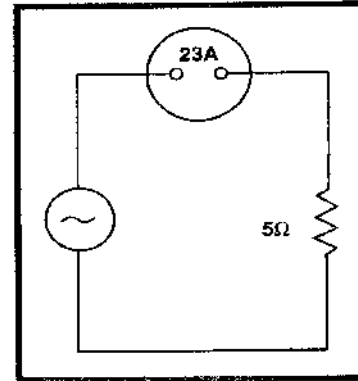

Fig. 9.1. Circuit Diagram
5. (Refer to figure 9.1) How much power is being furnished to the circuit ?